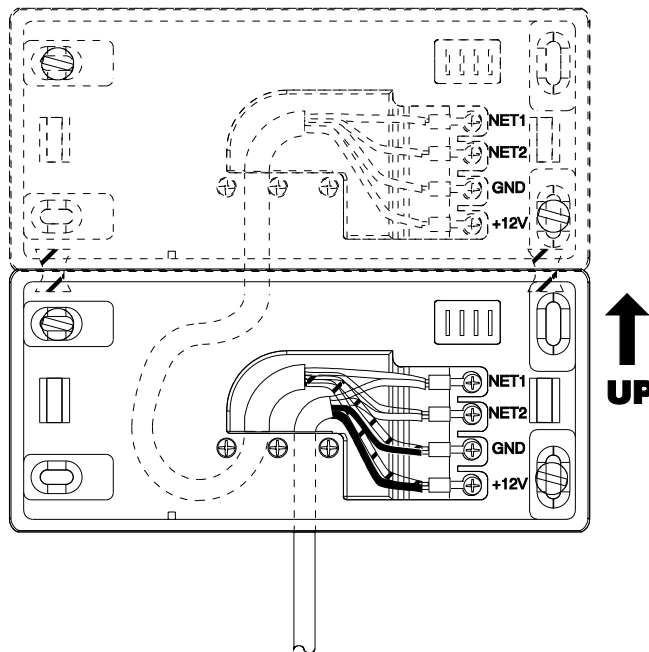

Figure 10. Channeling the Cables from the Bottom of the Box
7. Roll up the terminators of the cables from the wall and the extension cables, and fasten them to the cable crimps (see Figure 10).
8. Fasten the cable crimp to the contacts in the direction shown in Figure 10.